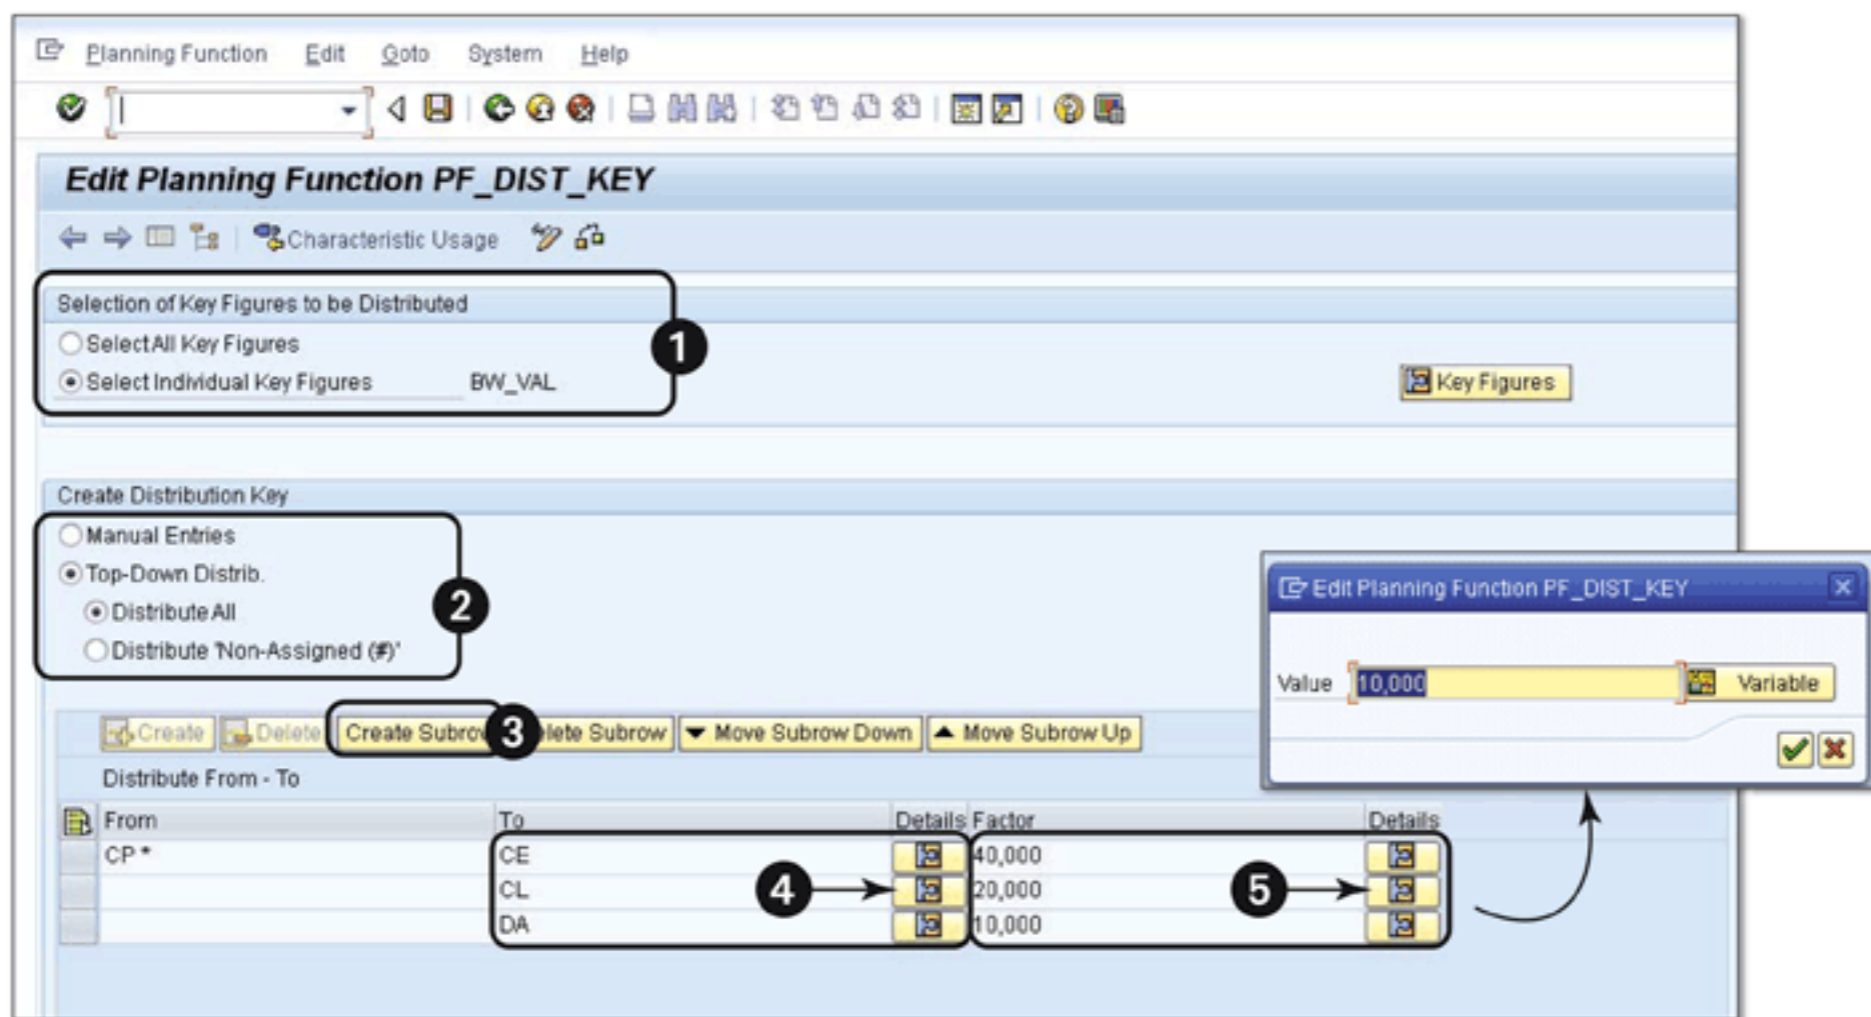

Figure 12.48 Define Planning Function Distribution with Key
To define the parameters for the DISTRIBUTION BY KEY function, you have to first select the key figures that need to be distributed (❶ of Figure 12.48).
Note that the distribution weight is calculated based on the relative weight of the factors, so it isn't necessary for the sum of the factors to be 100%. For the example shown in Figure 12.48, the product range CE will get a value that is double the value product range CL will get. Similarly, product range DA will get a value that is half the value CL will get.